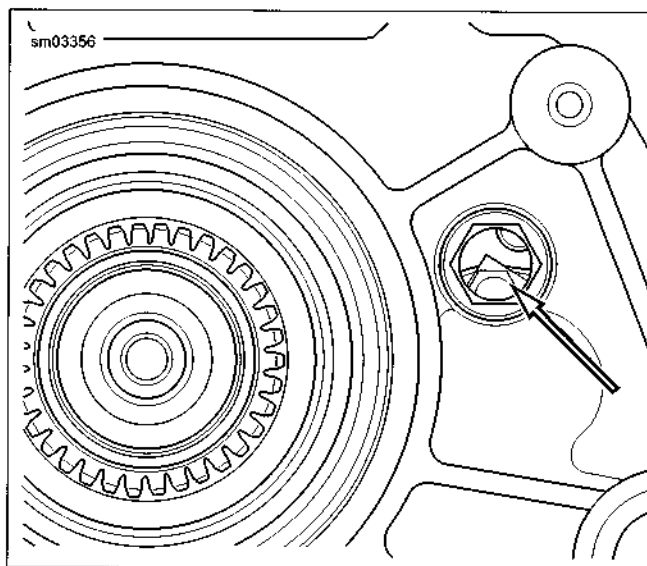

Figure 5-24. Shifter Drum Neutral Detent
9. See Figure 5-24. Verify that shifter drum detent is visible in neutral switch hole indicating that transmission is in neutral.